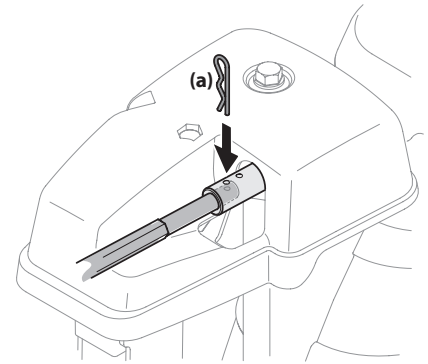

Figure 4-11
2. Pull out chute control rod until hole in it lines up with second hole in chute rotation assembly. See Figure 4-11.